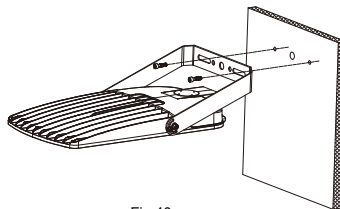

Fig 40
Step 4 . Use screws to fix the lamp to the wall, as shown in figure 40